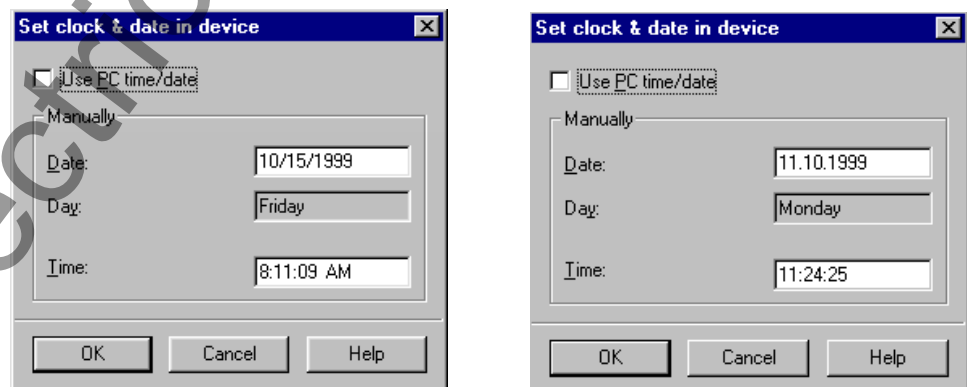

Figure 7-34 Dialog Field: **Set clock & date in device**
- Edit the input fields **Date** and **Time**. The format depends on your regional settings of the PC. See Figure 7-34.